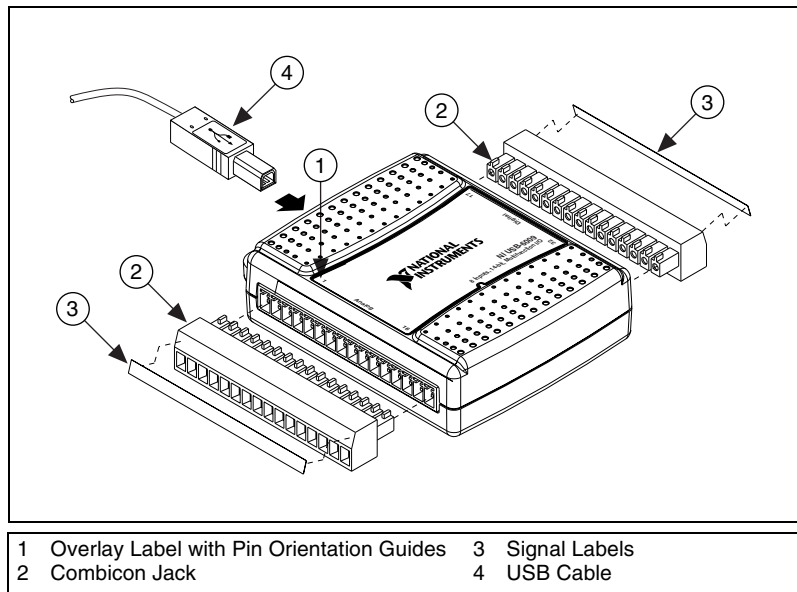

Figure 4. Signal Label Application Diagram
2. Refer to Table 3 and Figure 4 for label orientation and affix the provided signal labels to the screw terminal blocks. Until the signal labels are applied, you can insert the screw terminal blocks into either of the combicon jacks. Refer to Figure 4 for more information about signal label orientation.